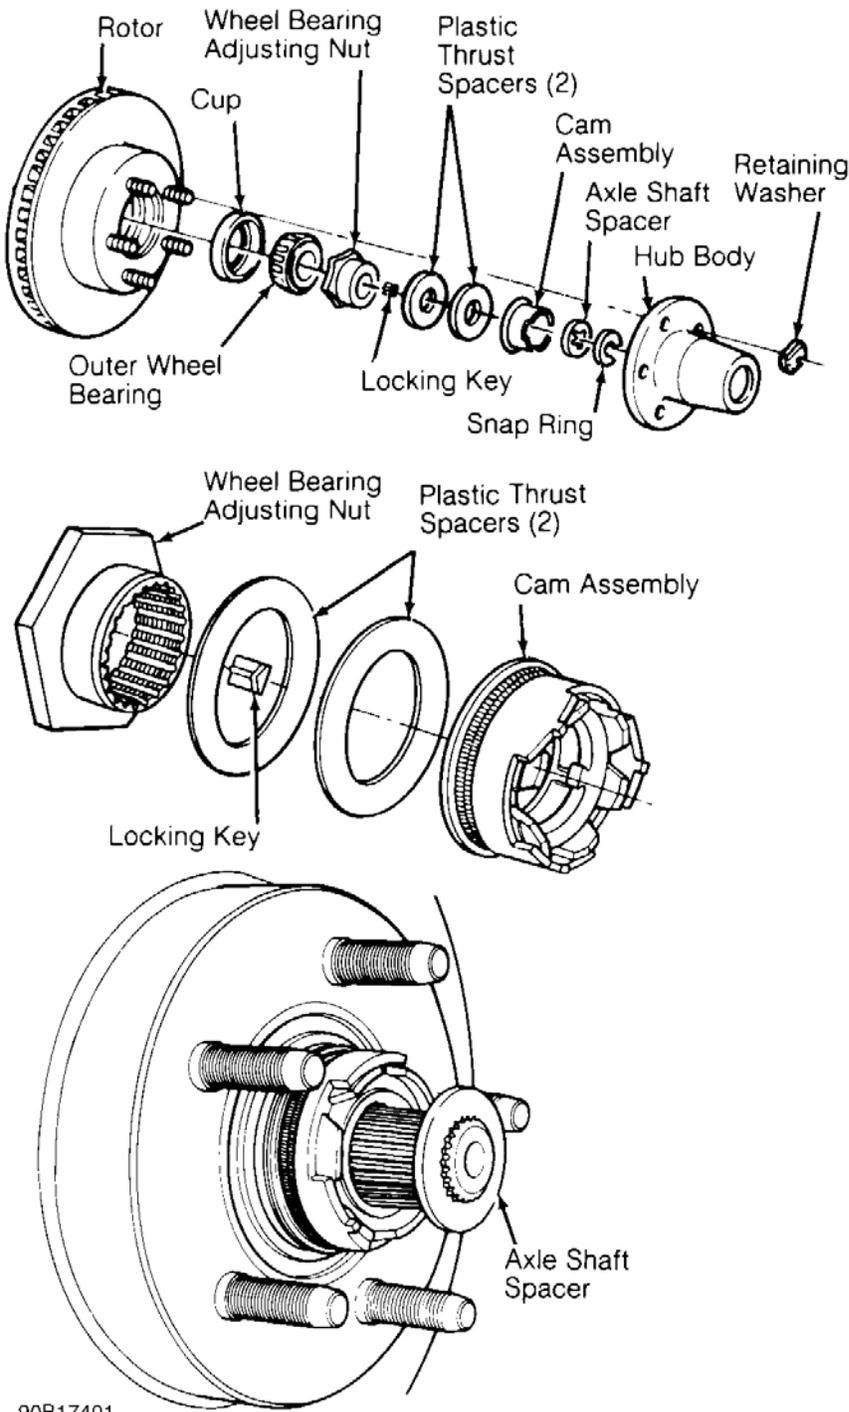

Fig. 13: Removing Front Rotor (Navajo with Automatic Locking Hubs)
2. Remove snap ring from end of spindle shaft. Remove axle spacer. See **Fig. 13**. Carefully pull plastic moving cam off wheel bearing adjusting nut. Remove 2 plastic thrust spacers from adjusting nut. Using a magnet, remove locking key.
When installing rotor, outer bearing and adjusting nut, tighten adjusting nut to 35 ft. lbs (47 N.m) to seat bearings. Spin rotor, and back off adjusting nut 1/4 turn. Tighten adjusting nut to 16 INCH lbs. (1.8 N.m). To install remaining components, reverse removal procedure. See **Fig. 13** . After assembly is complete, wheel to spindle end play should be .001-.003" (.02-.08 mm).